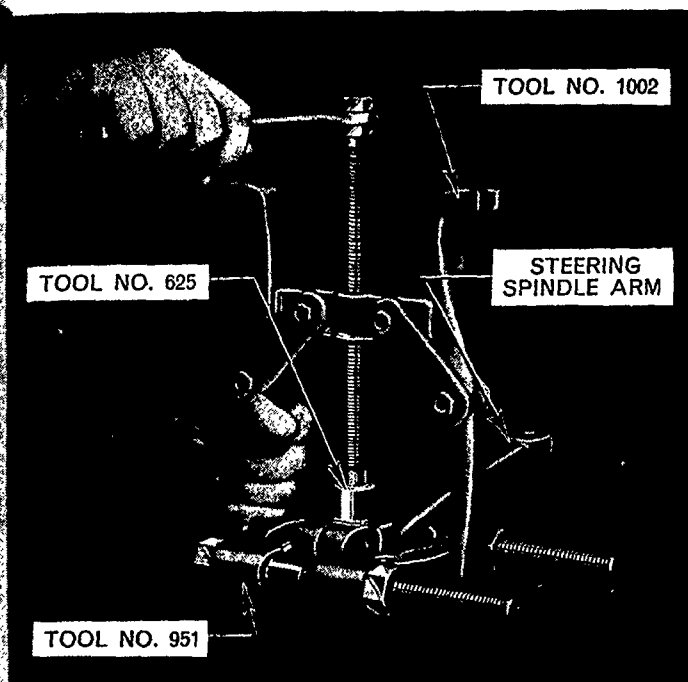

Figure 2
9. Remove the steering spindle arm from the wheel spindle. If arm is tight on the spindle use Tools 1002, 951 and 625 to remove. Figure 2.